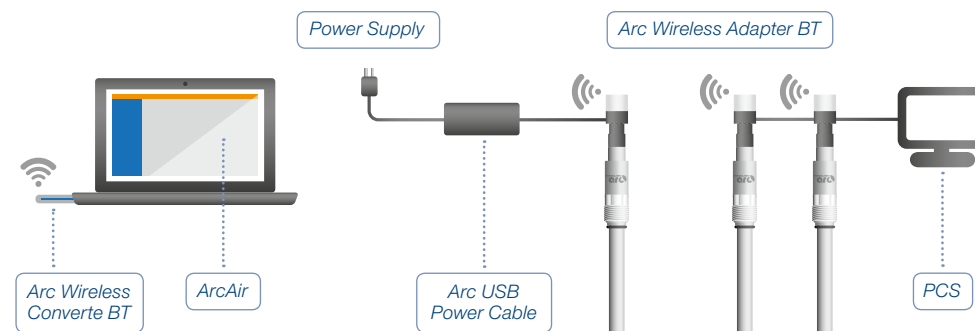

Fig. 2: Arc System wireless connection to ArcAir application
- 2) Switch on the mobile's Bluetooth connection or connect a Wireless Converter BT to USB Port of your computer (only for wireless connection, see figure 2 and 3)